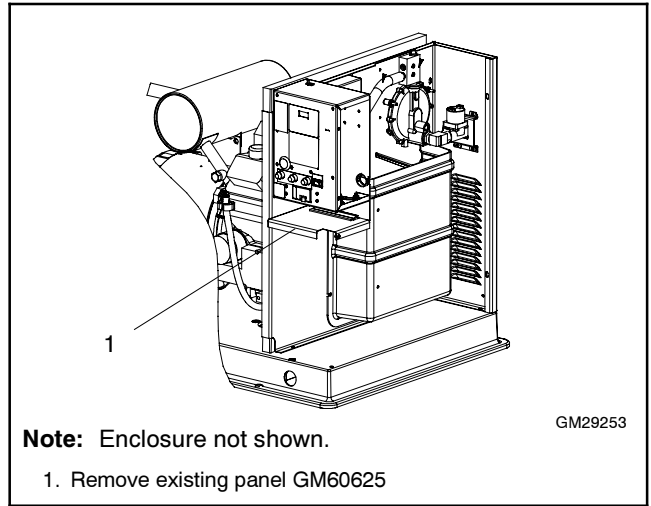

Figure 9 8.5/12RES Existing Junction Box Panel
- a. Remove existing junction box panel GM60625. See Figure 9. Save the hardware and seal for reuse.